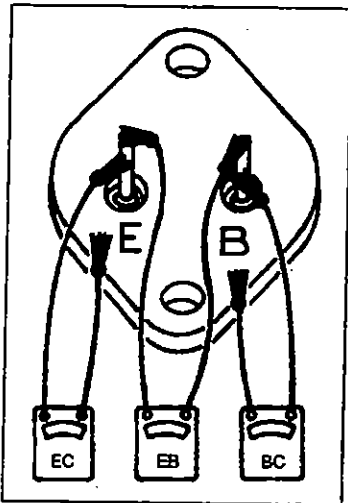

Figure 35 06081
- B) By removing any retaining screws involved and unsoldering the connections. When resoldering, limit solder time to a minimum as excessive heat may damage the printed circuit board and component parts. However, good soldered connections are essential for satisfactory operation. A resin core 63% tin 37% lead solder with a 360 °F (182 °C) melting point is recommended along with a soldering iron rated at 50 watts or less. Use extreme care to avoid overheating. Before checking the printed circuit board, remove transistor TR1, which must be checked separately. Connect the ohmmeter as shown in figure 35, and then reverse the ohmmeter leads to obtain two readings on the same component. Use the middle scale on scale-type meters on which the 300 ohm value should be within, or nearly within, the middle third of scale.
Transistor TR1 = See figure 35. Use the low scale. Each of the three checks should read low and high. If not, replace TR1.